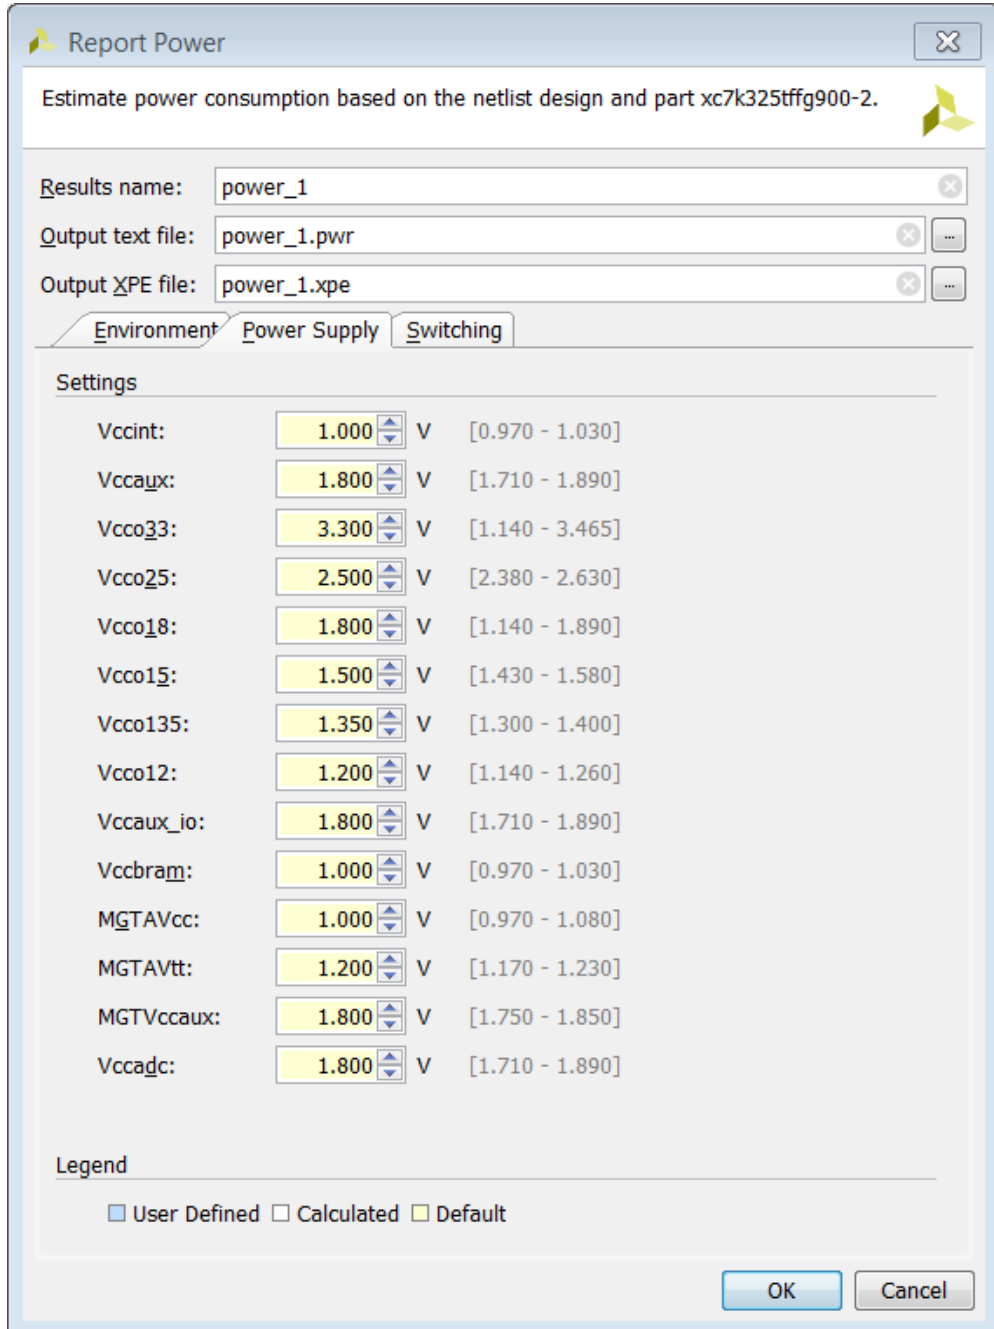

Figure 8: Report Power Dialog Box – Power Supply Tab
5. In the **Environment** tab, set **Process** to **maximum** for a worst case power analysis. Examine the **Power Supply** tab (Figure 8).